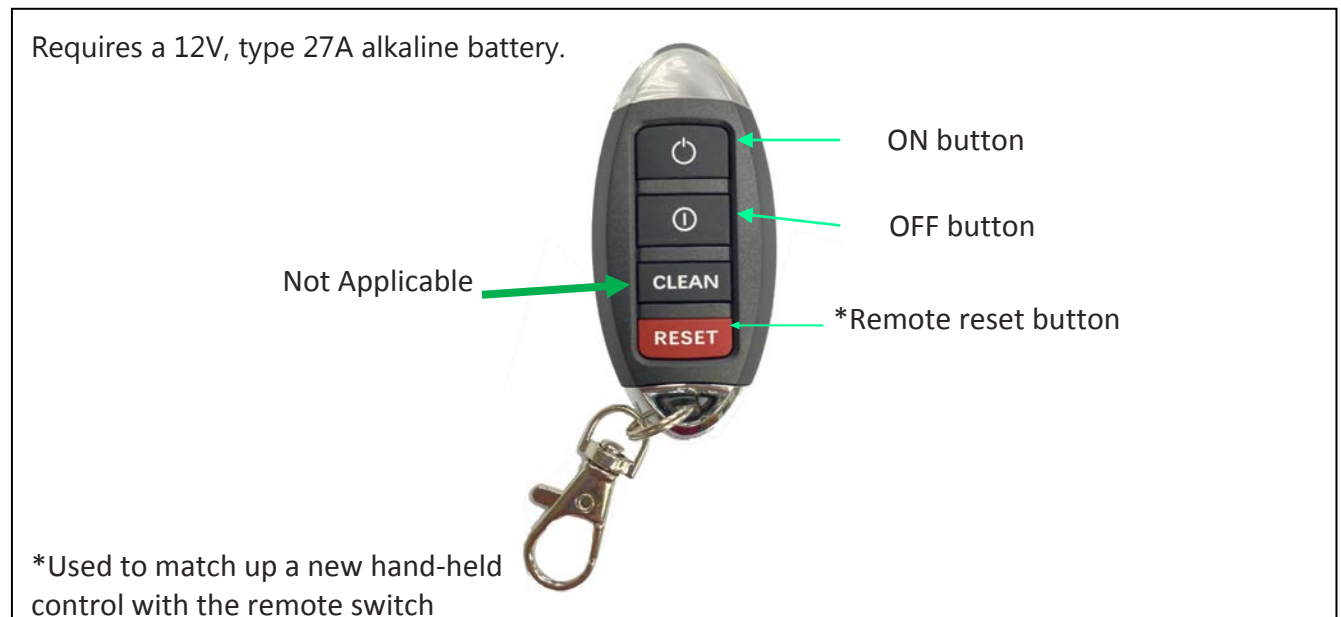

Figure 40: Hand-Held Remote Control
2. Press and hold the Receiver “set” button (Fig. 40) on the bottom of the ON/OFF control box until you hear beeping.
3. Press the remote control “Reset” button (Fig. 40) simultaneously with the receiver “set” button until you hear beeping. Release both buttons to complete the set up.